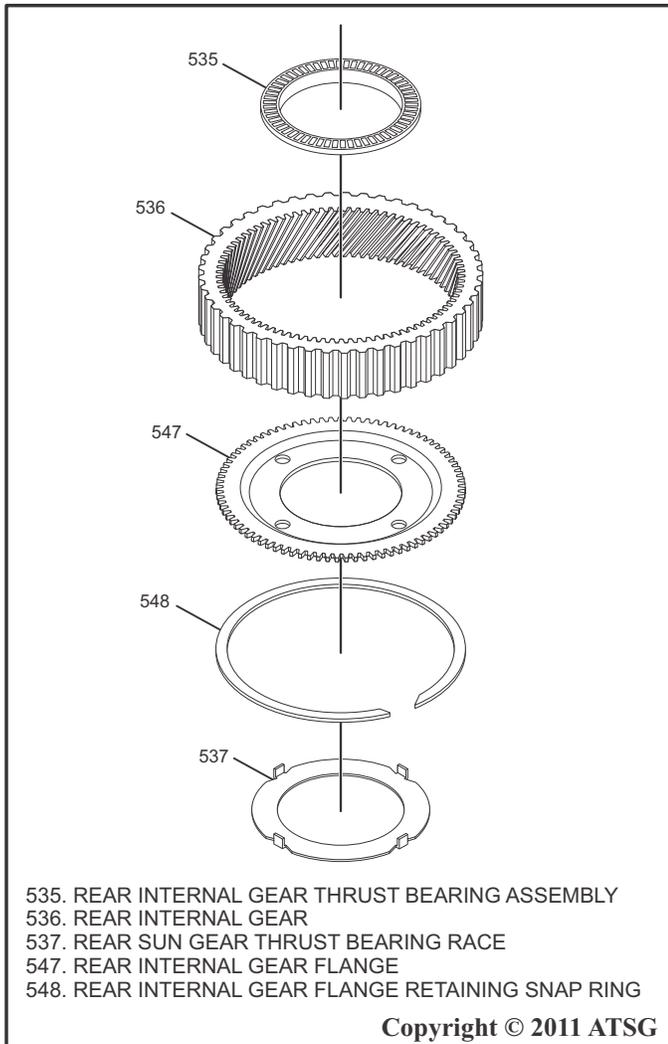

Figure 151
4. Install the Rear Internal Gear Flange into the Rear Internal Gear and install the snap ring as shown in Figure 151.
5. Coat the Rear Internal Gear Thrust Bearing with a small amount of Trans-Jel® and install onto upper side of the Rear Internal Gear Flange as shown in Figure 151.
6. Coat the Rear Sun Gear Thrust Bearing Race with a small amount of Trans-Jel® and install onto the lower side of the Rear Internal Gear Flange as shown in Figure 151.